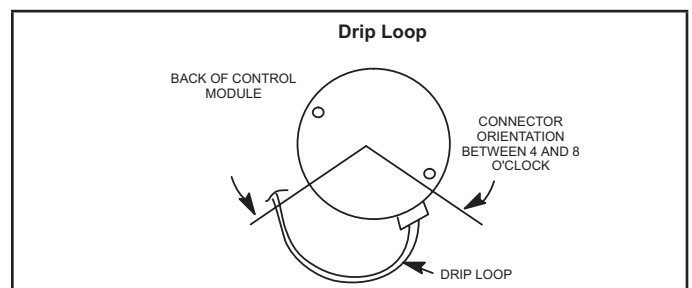

FIGURE 21
- 5 - The electrical connectors of the motor should be facing down to form a drip loop (FIGURE 21) This will direct moisture away from the motor and its electric connections on the motor.